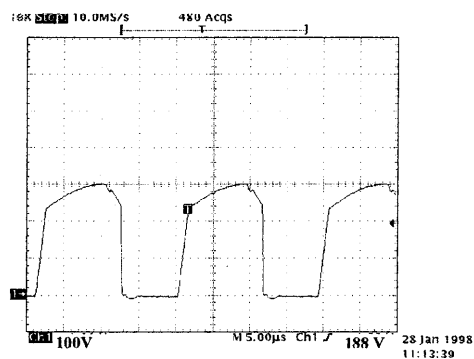

FIG. 10 REF.1
- the motor fan starts up, and after approx. 2 seconds a wave will appear as in fig. 10.